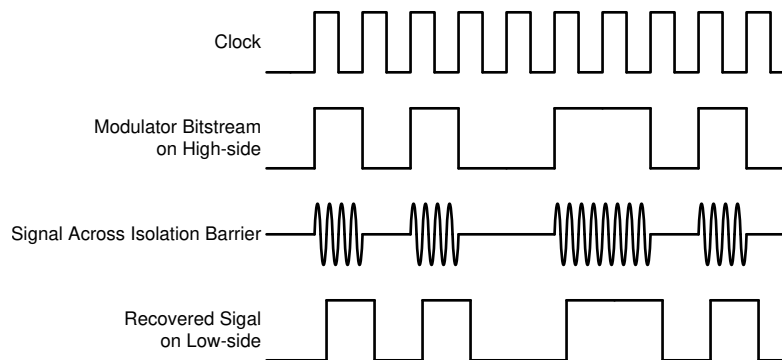

Figure 7-3. OOK-Based Modulation Scheme
The AMC3306M25 uses an on-off keying (OOK) modulation scheme, as shown in Figure 7-3, to transmit the modulator output bitstream across the SiO₂-based isolation barrier. The transmit driver (TX) illustrated in the *Functional Block Diagram* transmits an internally generated, high-frequency carrier across the isolation barrier to represent a digital *one* and does not send a signal to represent a digital *zero*. The nominal frequency of the carrier used inside the AMC3306M25 is 480 MHz.
Figure 7-3 shows the concept of the on-off keying scheme.